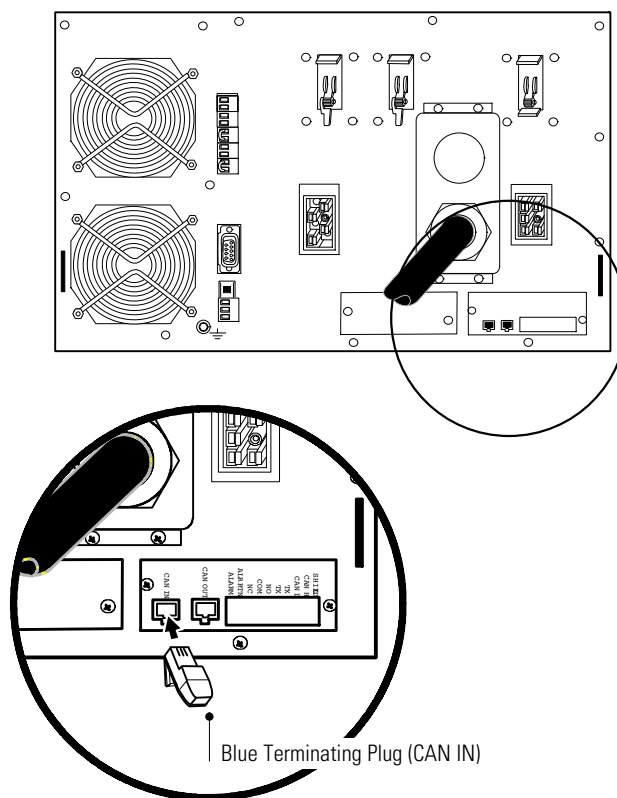
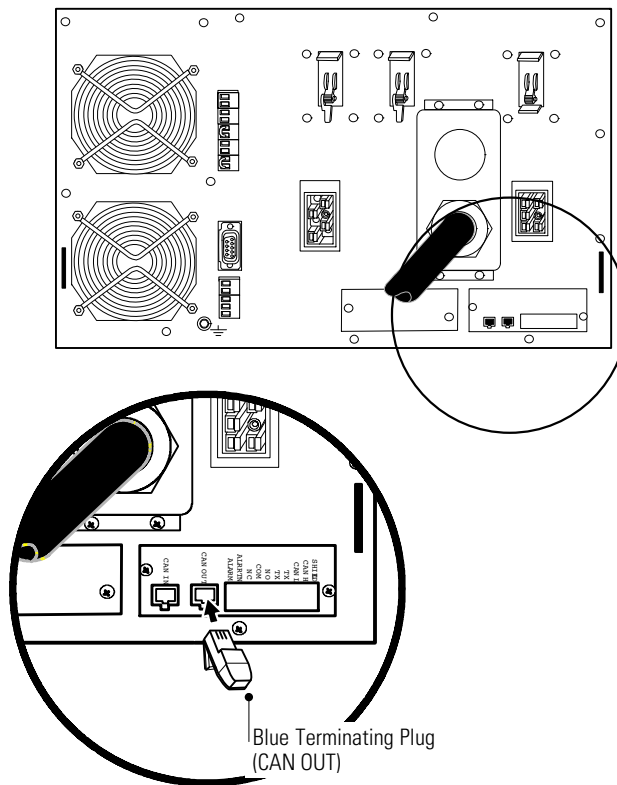
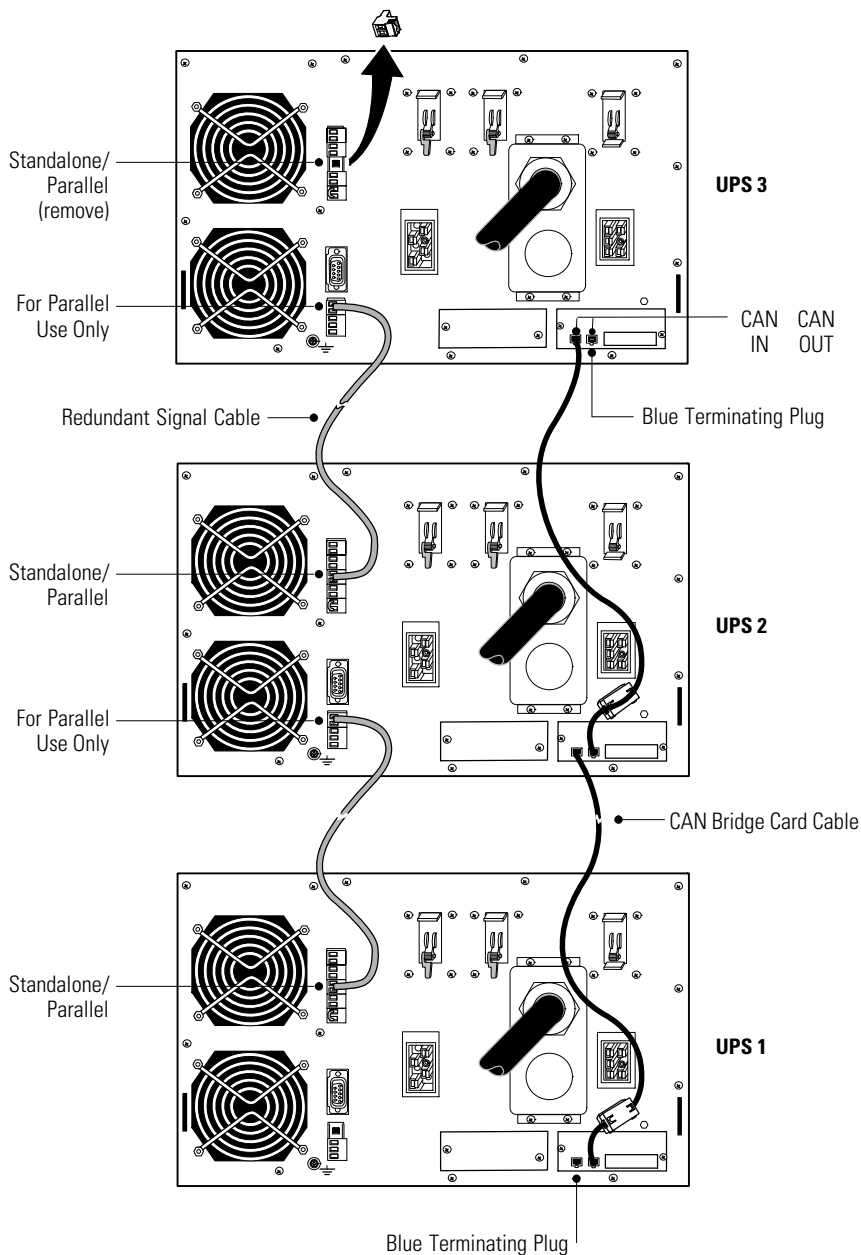

Figure 34. Installing the Blue Terminating Plug (First UPS)
Figure 35. Installing the Blue Terminating Plug (Last UPS)
Figure 36. Typical CAN Bridge Card and Redundant Signal Wiring
8. Install one of the two supplied blue terminating plugs (see Figure 34) into the CAN IN port on the first UPS (UPS 1 in Figure 36).
9. Install the second supplied blue terminating plug (see Figure 35) into the CAN OUT port on the last UPS (UPS 3 in Figure 36).
11. Using the supplied connectors, install a CAN Bridge Card cable between each UPS as shown in Figure 36, connecting the CAN OUT port on one UPS to the CAN IN port on the next UPS.
NOTE You can configure the parallel system with UPS 1 at the bottom of the rack (as shown in Figure 36) or at the top of the rack.
- 12.** Install a redundant signal cable between the For Parallel Use Only and Standalone/Parallel terminals on each UPS as shown in Figure 36.
- 13.** Remove the Standalone/Parallel terminal block connector from the last UPS (UPS 3 in Figure 36).